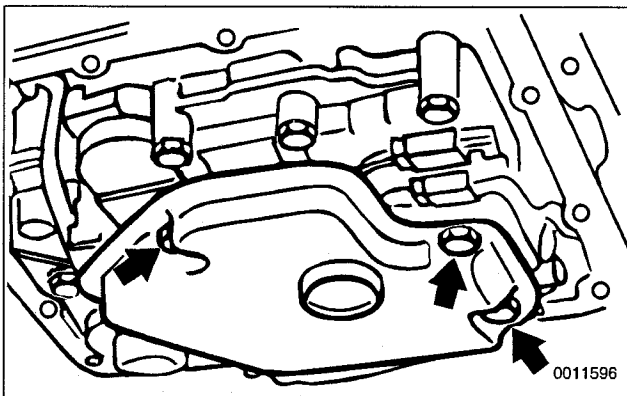
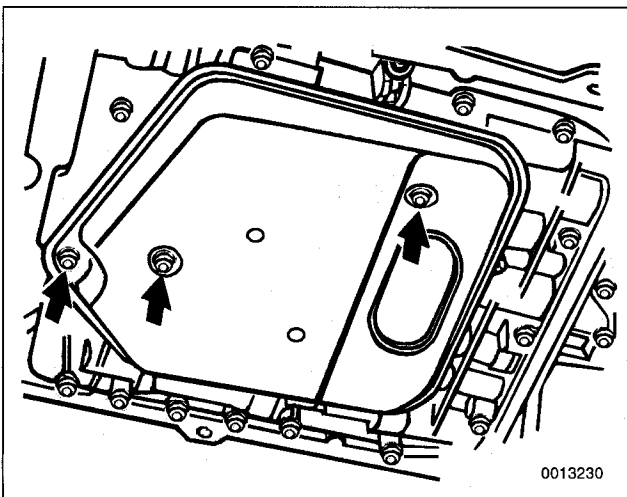

Fig. 4. A4S 270R/A4S 310R fluid strainer mounting bolts (arrows).
Fig. 5. A5S 310Z fluid strainer mounting bolts (arrows).
4. Remove ATF strainer mounting screws and remove strainer together with gasket or O-ring. See Fig. 4 or Fig. 5.